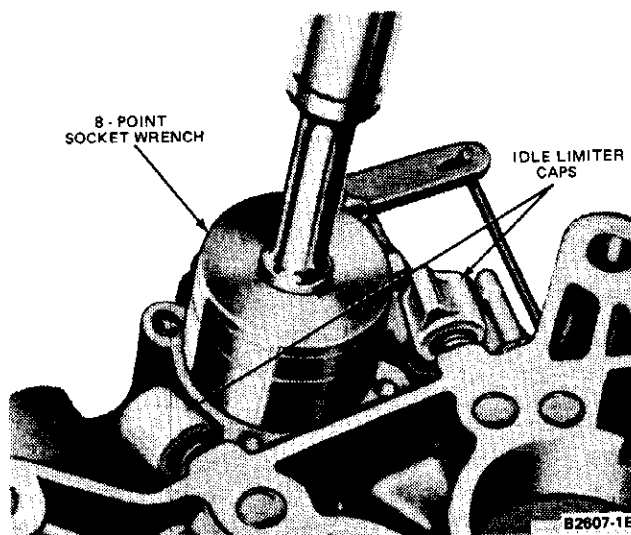

FIG. 25 Removing or Installing Enrichment Valve
7. Invert the main body and remove the enrichment valve cover and the gasket. Remove the enrichment valve with a box wrench or socket wrench (Fig. 25). Remove the enrichment valve gasket. Discard the gasket.
11. Invert the main body. Install the enrichment valve and new gasket with a wrench (Fig. 25). Tighten the valve securely.